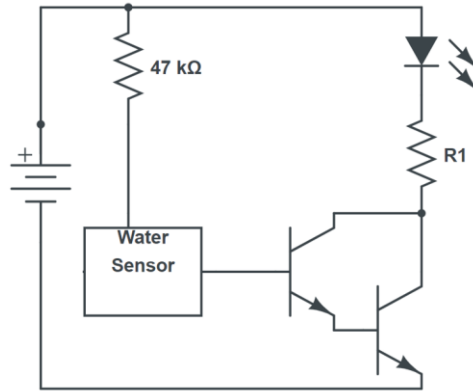

Figure 1: Circuit schematic to monitor water levels.
Figure 1 is a circuit schematic being used to monitor water levels for a water tank.
a) Using an appropriate symbol, show where you would connect each of the following to Figure 1:
b) Represent the circuit in Figure 1 as a simple IPO function block diagram.
c) Why might it be useful to test the circuit in Figure 1 with both breadboarding the circuit and using simulation?